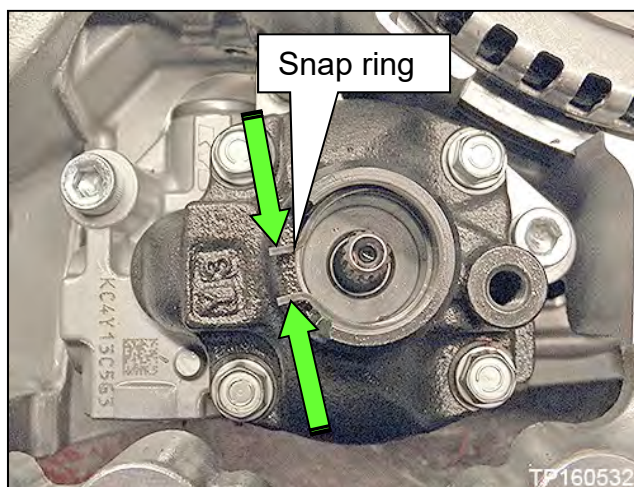

Figure 43
25. Remove the Oil pump snap ring (Figure 43).